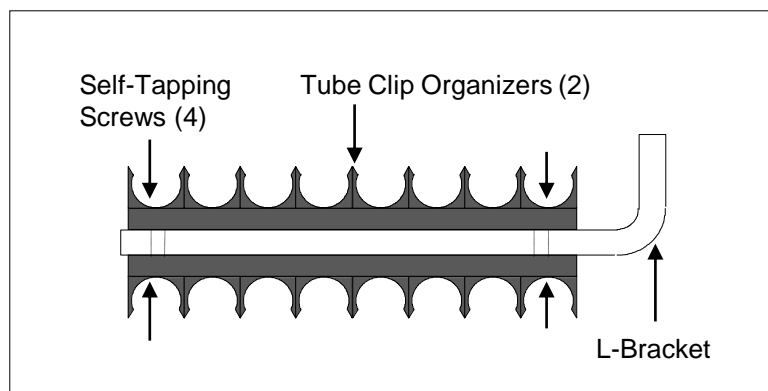

Figure 4
7.1 If required, assemble L-Brackets and Tube Clip Organizers using 2-56 self-tapping screws provided; four (4) per bracket. **See Fig. 4.**